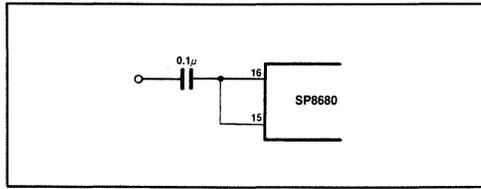
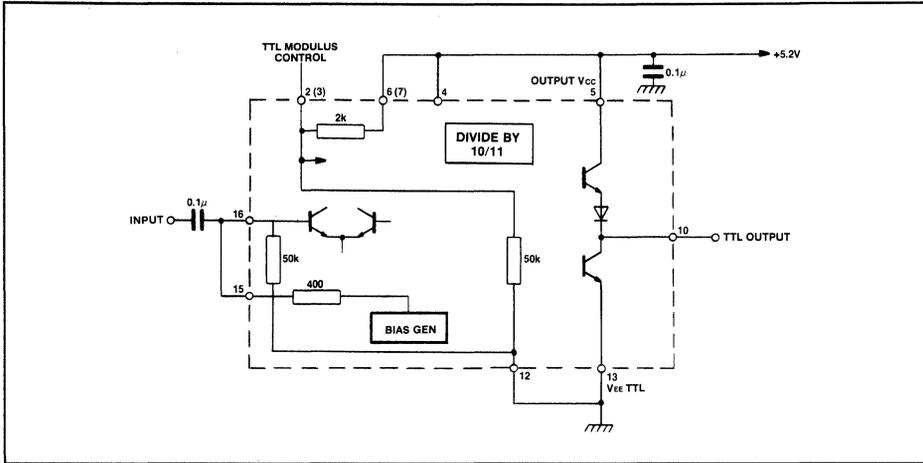
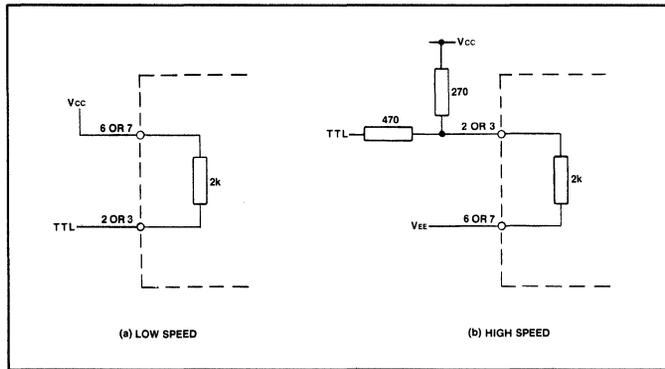

Fig.6 AC coupled input
Fig.7 Typical application showing interfacing
Fig.8 TTL interface to PE1 and PE2
1. The clock input, which is ECL 10K compatible throughout the temperature range, can also be directly coupled to TTL as shown in Fig.8. The clock can also be capacitively coupled to the signal source (see Fig.6). Connecting the internally-generated bias voltage to the clock input, i.e. pin 15 to pin 16 centres the clock input about the switching threshold (see Fig.7).
4. Both control inputs (PE1 and PE2) are ECL 10K compatible throughout the temperature range. Each control input is provided with a pull up resistor, the remote ends of which are connected to pins 6 and 7. This allows the pull up resistors to be unused if so desired, or to be used to interface from TTL (see Fig.8). If interfacing to ECL is required then pins 6 and 7 should be left open circuit: alternatively they can be connected to  $V_{EE}$  to act as pull-down resistors. When high, the master set input sets the counter to the eleventh state, is asynchronous, and overrides the clock input.